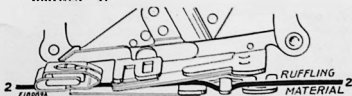

FIG. 62. CORRECT POSITION FOR MATERIAL TO BE RUFFLED
- (3) Insert the material to be ruffled between the two blue blades **Line 2, Fig. 62.**
- (4) Draw the material slightly back of the needle, lower the presser bar and commence to sew.
- (5) For fine gathering, turn the adjusting screw **C** upward and shorten the stitch.
- (6) For full gathering, turn the adjusting screw **C** downward and lengthen the stitch.